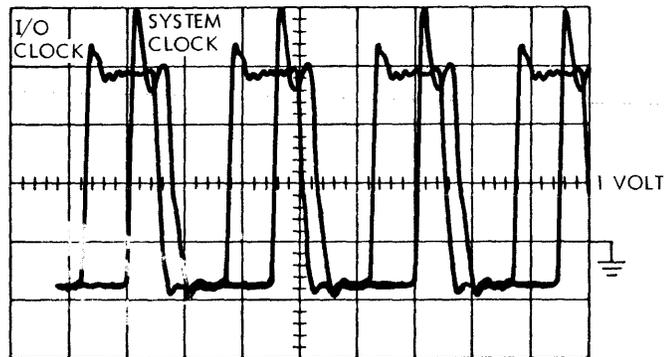

Fig. IV-5 SYSTEM CLOCK + I/O CLOCK 100ns/cm
- b. Using system clock for a reference, check pin OWX of each occupied card slot in the I/O Base. Measuring trailing edge to trailing edge, the I/O clock should be 25 ± 7 ns late. Use Figures IV-5 and IV-6 for reference.